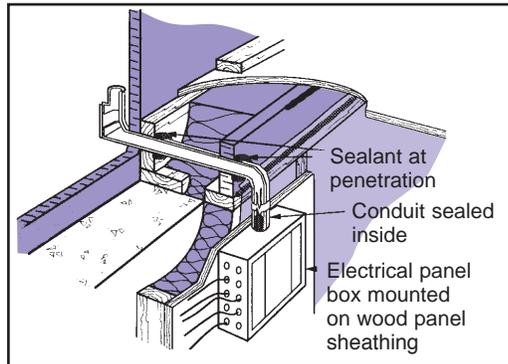

Fig. E-39: Main electric in basement
- Sill box penetrations: These include furnace, water heater, and dryer vents as well as air conditioner, water, gas, and electric service lines. Specify sealing around all service penetrations and exhaust vents (see Figure E-39).